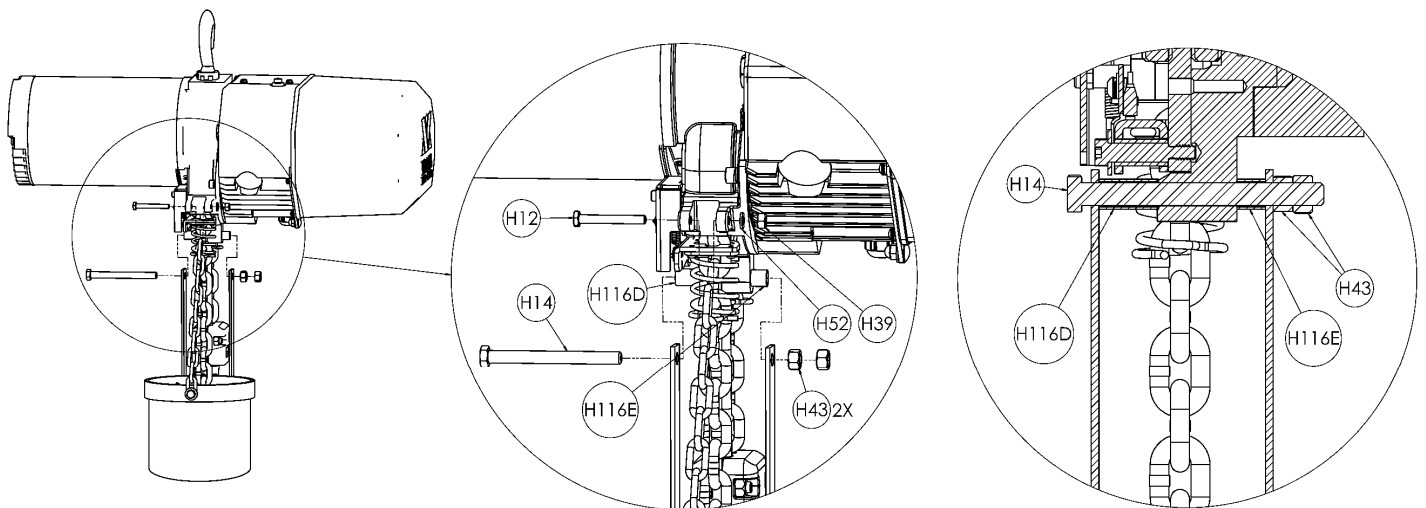

Figure 3.3.1
3. Remove bolt H14, its 2 nuts H43 and the two spacers H116D and E from the chain basket. Line up the chain basket's mounting hole with the corresponding hole on the hoist (see figure 3.3.1).
5. Remove bolt H12 and nut H39. Put the free end of the lifting chain in the chain basket. Fasten the chain basket's chain to the hoist's frame with bolt H12 and nut H39 (see figure 3.3.1).
4. Remove bolt H12 and nut H39. Put the free end of the lifting chain in the chain basket. Fasten the chain basket's chain to the hoist's frame with bolt H12 and nut H39 (see figure 3.3.1).